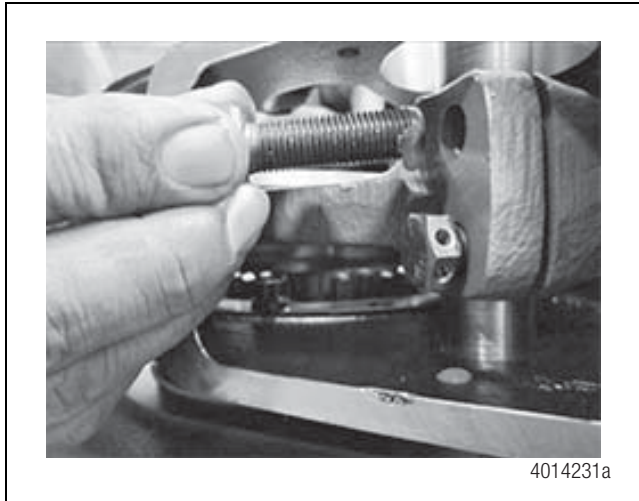

Figure 6.42
4. The clutch collar and fork must be installed in the right direction, so that the shift fork bolts can be installed on the machined side. Figure 6.42.